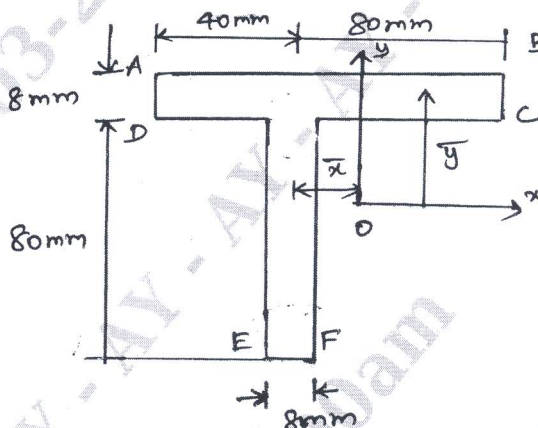

Fig Q1(b)
- b. A beam having cross section as shown in Fig Q1(b) is subjected to a bending moment of 1500Nm in a vertical plane. Calculate the maximum direct stress due to bending, stating the point at which it acts.